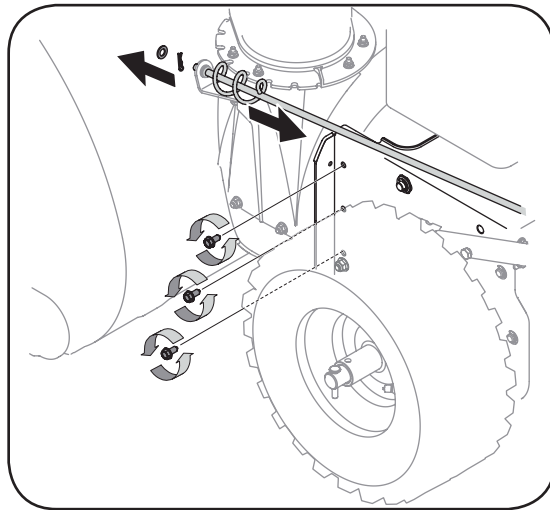

Figure 28
8. Remove the upper bolts which attach the auger housing assembly to the frame assembly using a 9/16" wrench. Refer to Figure 28.